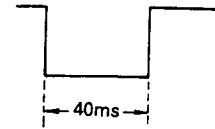

Figure 60.
2. Monitoring TP10 with an oscilloscope (internal trigger single) and repeating still playback several times adjust R7021 to meet the requirement given in Figure 60.